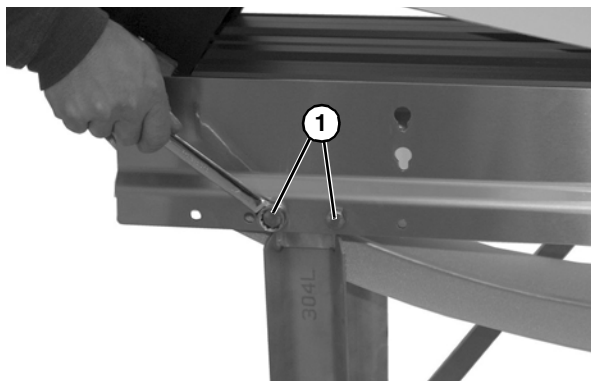

Figure 7
2. Attach the stands to the frame with two cap screws (**Figure 7, item 1**).